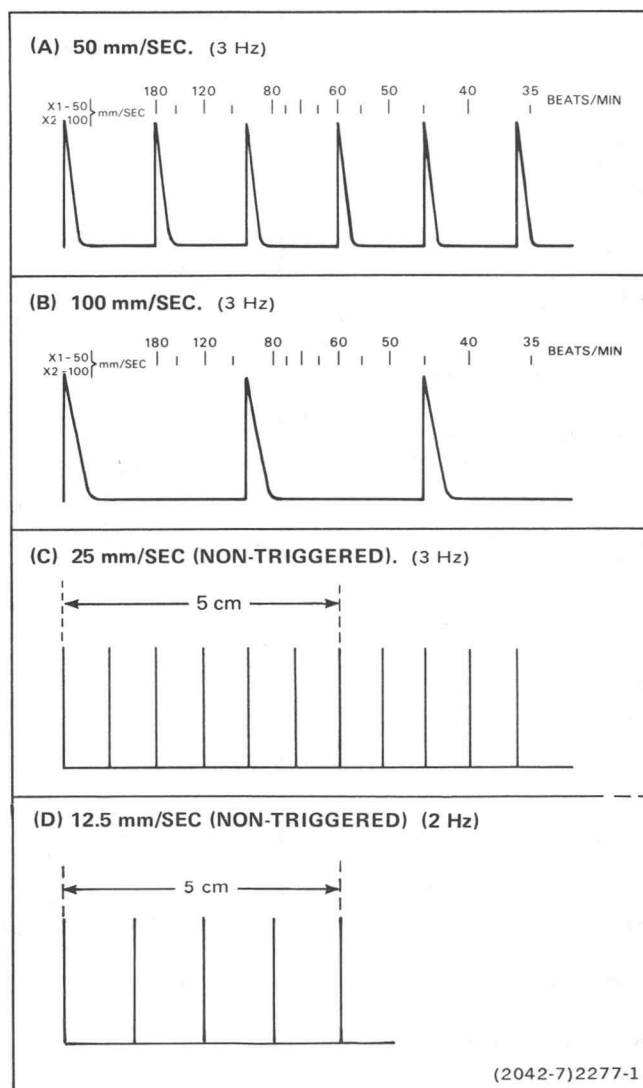

Figure 5-6. Horizontal Width adjustment.
a. Set POWER button out (off) and disconnect yoke plug, P1690 (Fig 5-6). Set POWER button in (on).
c. **ADJUST**—Centering Rings for centered spot. Refer to Figure 5-6.